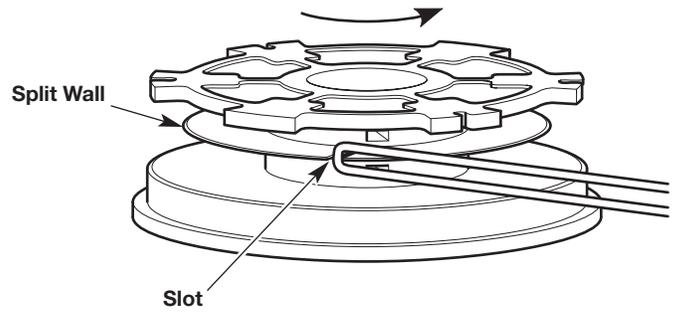

Fig. 19
2. Insert the loop into the slot in the split wall (Fig. 19). Wind the line tightly in the direction shown on the bottom of the inner reel until about 6 inches (15 cm) of line remains. Keep the top half of the line above the split wall and the bottom half of the line below the split wall.